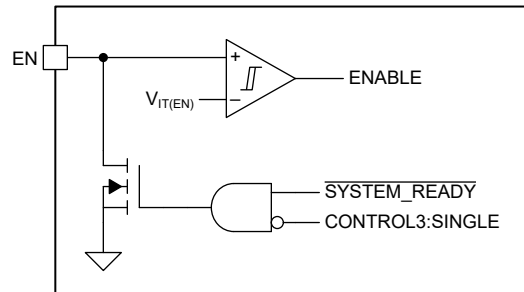

Figure 8-8. Enable Functional Block Diagram
The Enable (EN) pin is bidirectional and has two functions. See Figure 8-8: